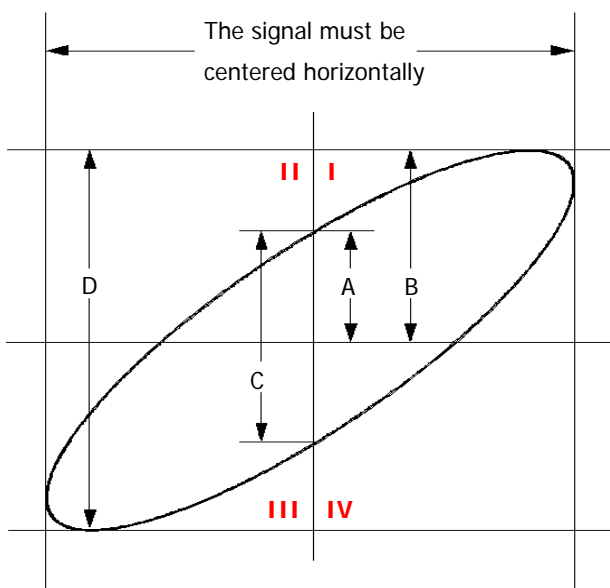

Figure 3-2 Measurement Schematic Diagram of Phase Deviation
4. Observe the measurement result shown in the figure above. According to the measurement schematic diagram of the phase deviation (as shown in Figure 3-2), A/B (C/D) = 1. Thus, the phase deviation angle $\theta = \pm \arcsin 1 = 90^\circ$.